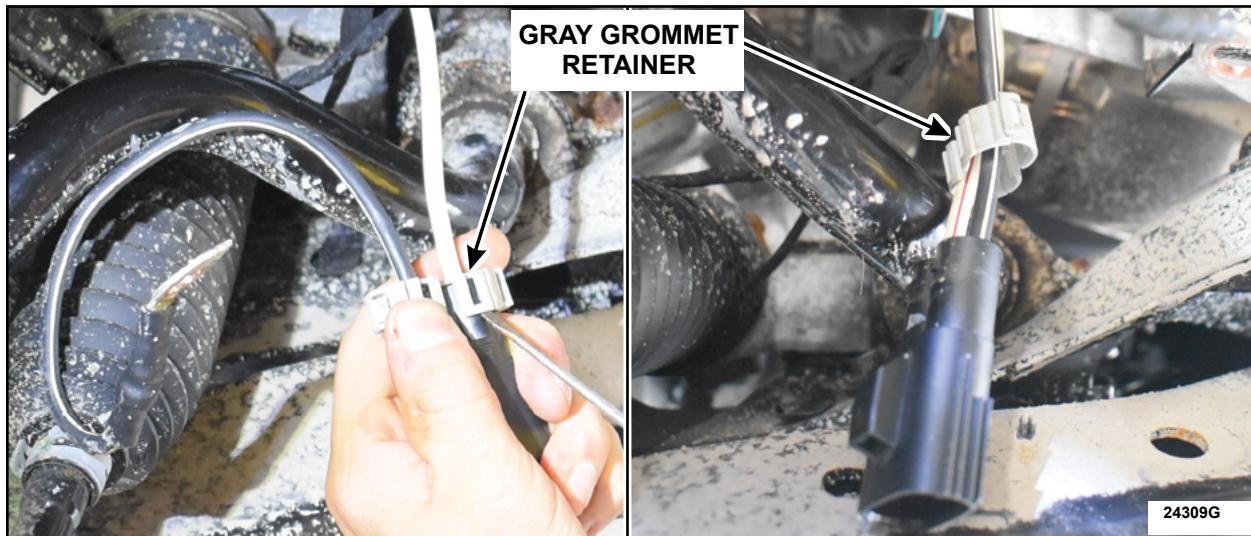

FIGURE 7
10. Release the four tangs and slide the gray grommet retainer off of the back of the electrical connector. See Figure 7.